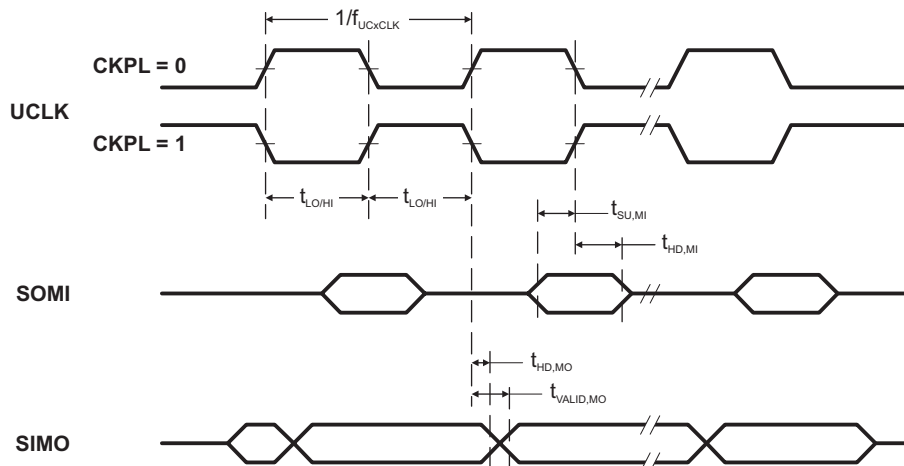

Figure 11. SPI Master Mode, CKPH = 0
(see Note (1), Figure 11 and )
- (2) Specifies the time to drive the next valid data to the SIMO output after the output changing UCLK clock edge. Refer to the timing diagrams in Figure 11 and .
- (3) Specifies how long data on the SIMO output is valid after the output changing UCLK clock edge. Negative values indicate that the data on the SIMO output can become invalid before the output changing clock edge observed on UCLK. Refer to the timing diagrams in Figure 11 and .